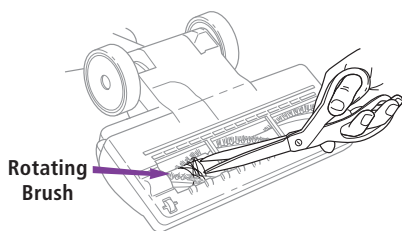

Fig. 29
- 2 Inspect the opening underneath and the rotating brush. If a build-up of debris is present, remove it. Carefully cut anything wound around the rotating brush with scissors. Avoid damaging or cutting the bristles. (Fig. 29)